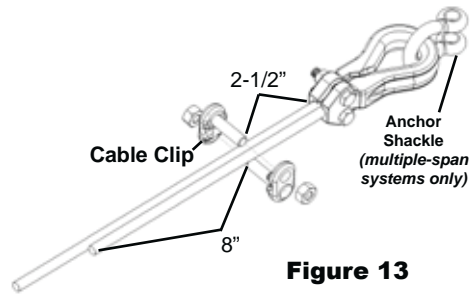

Figure 13
G. Cable Clip to Cable Lifeline *(see Figure 13)*
1. Attach cable clip 2-1/2" from the combination clamp and thimble *(Figure 13)*. Ensure that at least 8" of cable extend beyond the clip. Torque cable clip nuts to 45 ft.-lbs. using a 3/4" wrench.